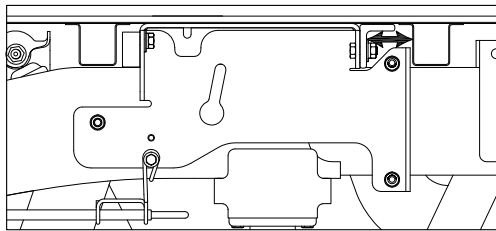

FIGURE D1: Driver side of truck frame inside the wheel well.
2. **Square the hitch.** With a tape measure, check the distance between the Turnoverball hitch and the nearest bed crossmember. The distance between the hitch and the crossmember should be consistent on the passenger side and the driver side of the hitch, see figure D1. Adjust hitch until the hitch and the bed crossmember are the same from side to side.